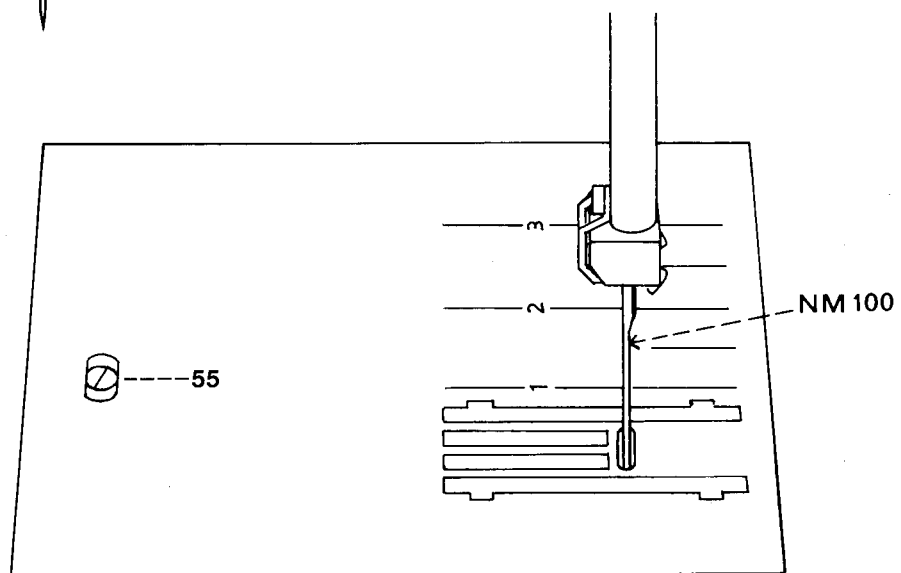

Fig. 16b
- Turn regulating eccentric 55 until the needle is the same distance from the front and back of the needle slot in the needle plate (Fig. 16b).